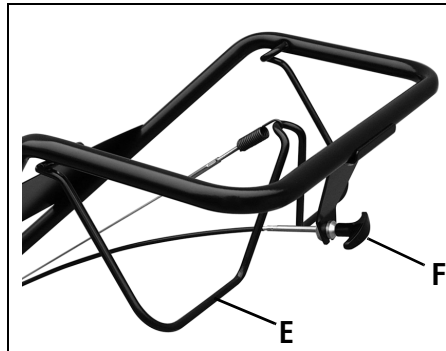

Figure 3-4: All models have a Forward Clutch Bail (E). Only Model 644A have a Reverse Clutch Control (F).
The Forward Clutch Bail (E, Figure 3-4) controls the engagement of forward drive to the wheels and tines.
2. Lift and hold the clutch bail (E, Figure 3-4) against the handlebar to start the wheels and tines rotating in a forward direction.
The Reverse Clutch Control (F, Figure 3-4) controls the engagement of reverse drive to the wheels and tines. **The reversing feature is used for maneuvering the tiller only — never engage the tines in the ground while operating in reverse.**
3. Lift the handlebar until the tines clear the ground, look behind you to avoid any obstacles, and then pull the control knob (F, Figure 3-4) out. The wheels and tines will rotate in a reverse direction.